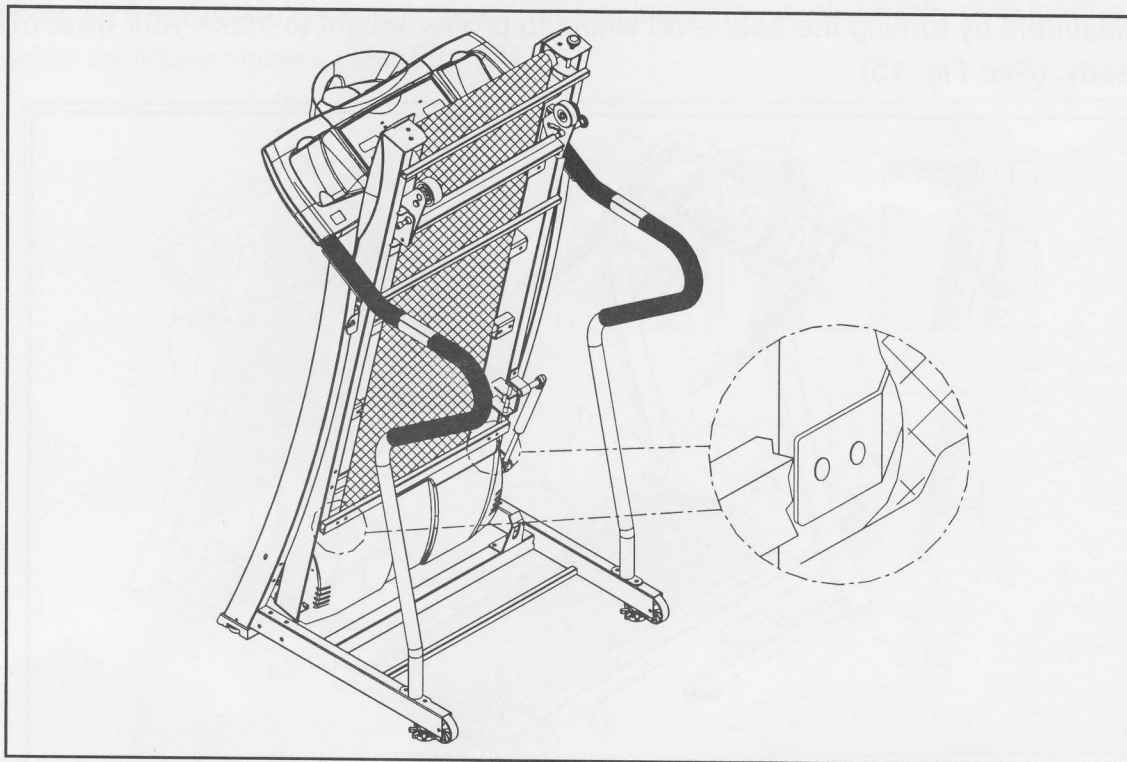

Fig.13
7. Please fold up your treadmill to its upright position, and make sure the running belt is inside the track of the two BELT ALIGNMENT GUIDES on the underside of the treadmill. (See Fig. 13)